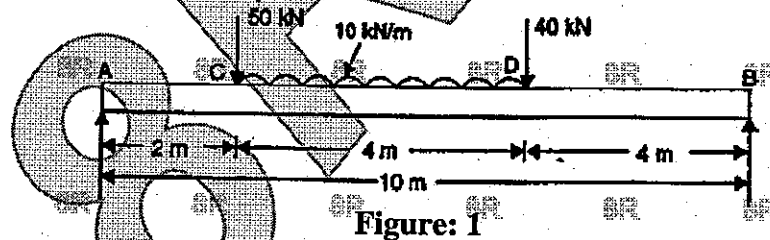

Figure: 1
- b) A simply supported beam of length 10 m carries the uniformly distributed load and two point loads as shown in Figure 1. Draw the S.F and B.M diagram for the beam and also calculate the maximum bending moment. [7+8]